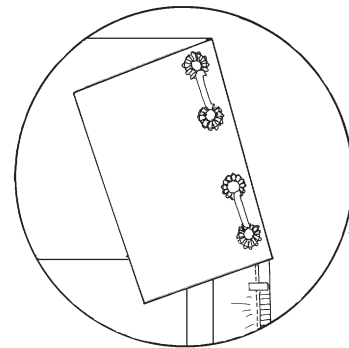

Fig. 14-3
4. Sew the eye in place around both loops, using small stitches. Fasten the thread securely and clip. (Fig. 14-3)